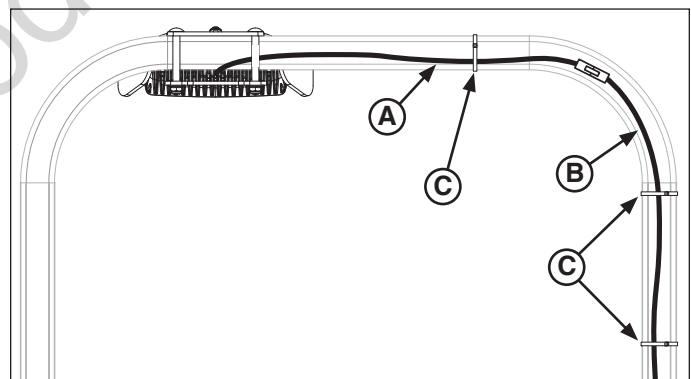

Figure 2. Routing the Wire Harness
- Position the mounting bracket on top of the ROPS and as far to the trim side as possible. See *Figure 2* as a reference for the correct position.
- Position the support bracket (**E**) on the underside of the ROPS and secure the headlight in place using four (4) 5/16-18 X 2-3/4 carriage bolts (**F**) and nylock flange nuts (**G**).
- Connect the headlight wire (**A**, **Figure 2**) to the headlight wire harness (**B**) and secure the harness in position along the ROPS using the provided zip ties (**C**).